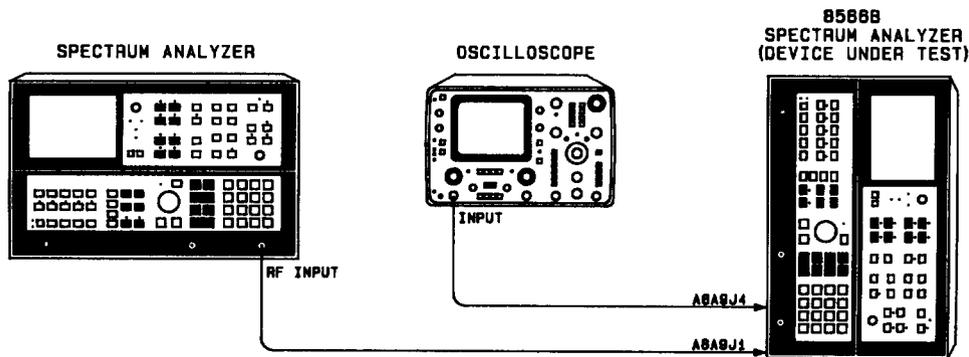

FIGURE 59. RF MODULE PHASE LOCK ADJUSTMENTS SETUP
2. With LINE switch in STANDBY, place instrument on right side as shown in Figure 59, with bottom cover removed. Disconnect 82 and 84 (gray/red and gray/yellow) cables from A6A12 and remove A6 assemblies cover.